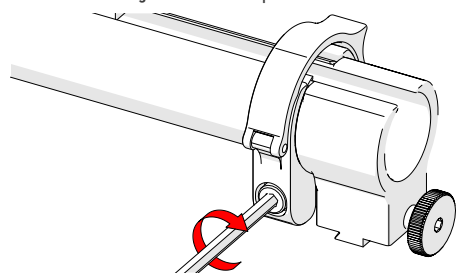

Fig. 79 - Tighten clamp screw
4. Tighten the clamp screw (Fig. 79).